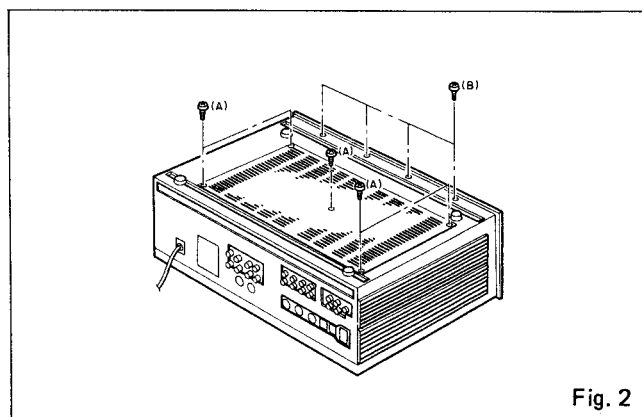

Fig. 2
- If the five screws (A) shown in Fig. 2 are removed, the bottom plate can be taken out.
- 2) Remove the four screws (B) shown in Fig. 2.